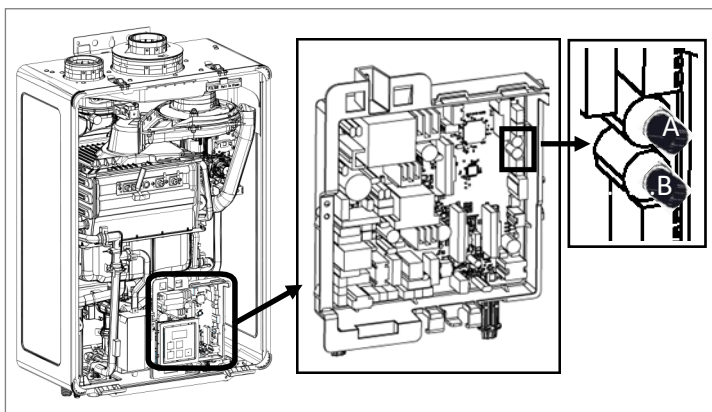

Figure 92
9. Locate the PC Board at lower of unit (Figure 92).